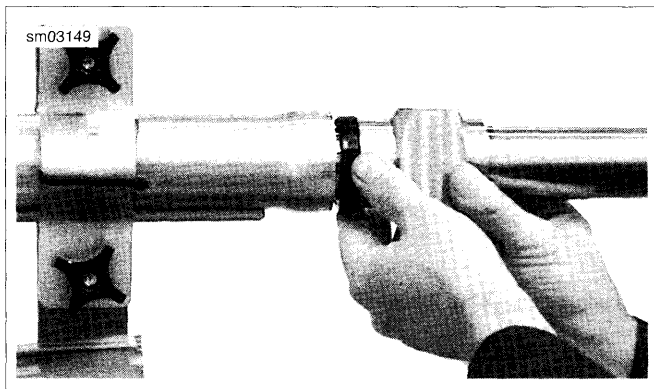

Figure 2-176. Install Seal Components
4. See Figure 2-176. Assemble the FORK SEAL DRIVER (Part No. B-42571) over fork slider in front of oil seal with the long end of tool facing seal and assemble in the following order: Install bushing, spacer, and drive fork seal into fork tube bore with tool until tool is flush with fork slider.